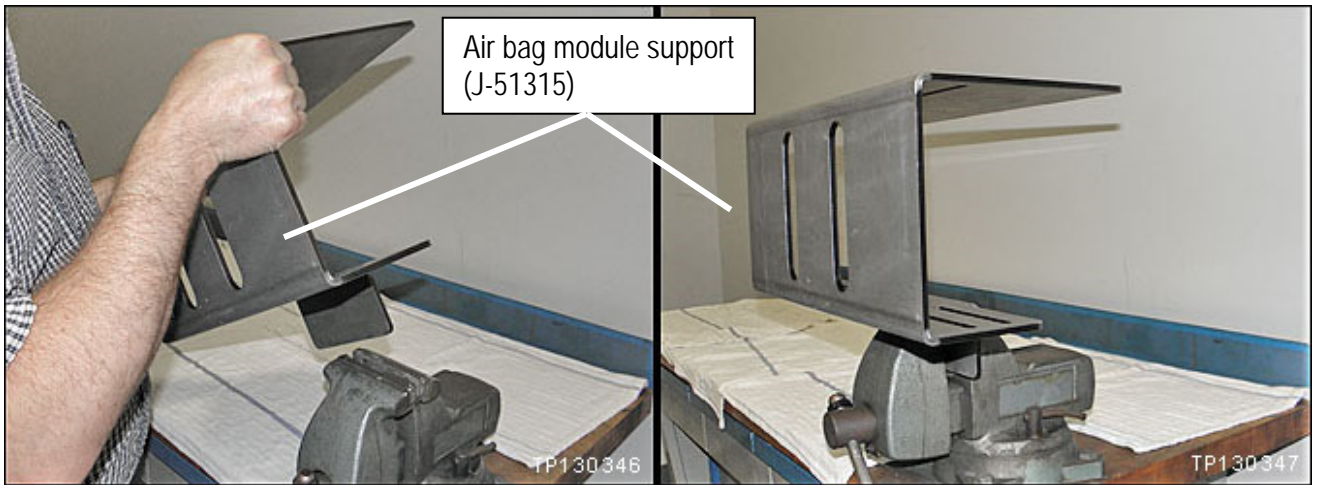

Figure 12
19. Securely mount the air bag module support (support) in a vice (see Figure 12).